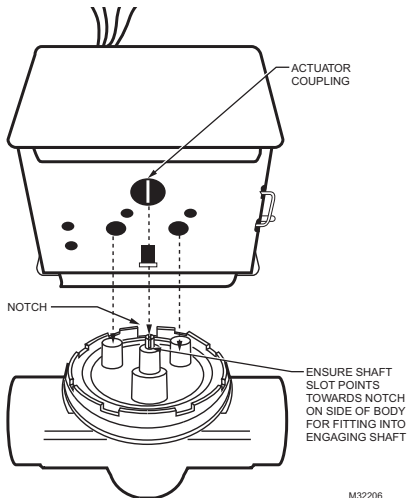

Fig. 2. Installing new actuator.
1. **Orient slot in shaft of VU-series valve body toward notch in side of body (i.e. 90° to water flow.) See Fig.2.** This lifts the ball off seat, prevents damage to the ball seal while soldering, and makes actuator attachment easier.
5. Line up motor coupling to slot in shaft of body and fit the head onto the valve body, ensuring that the shaft seats correctly. (See Fig. 2).